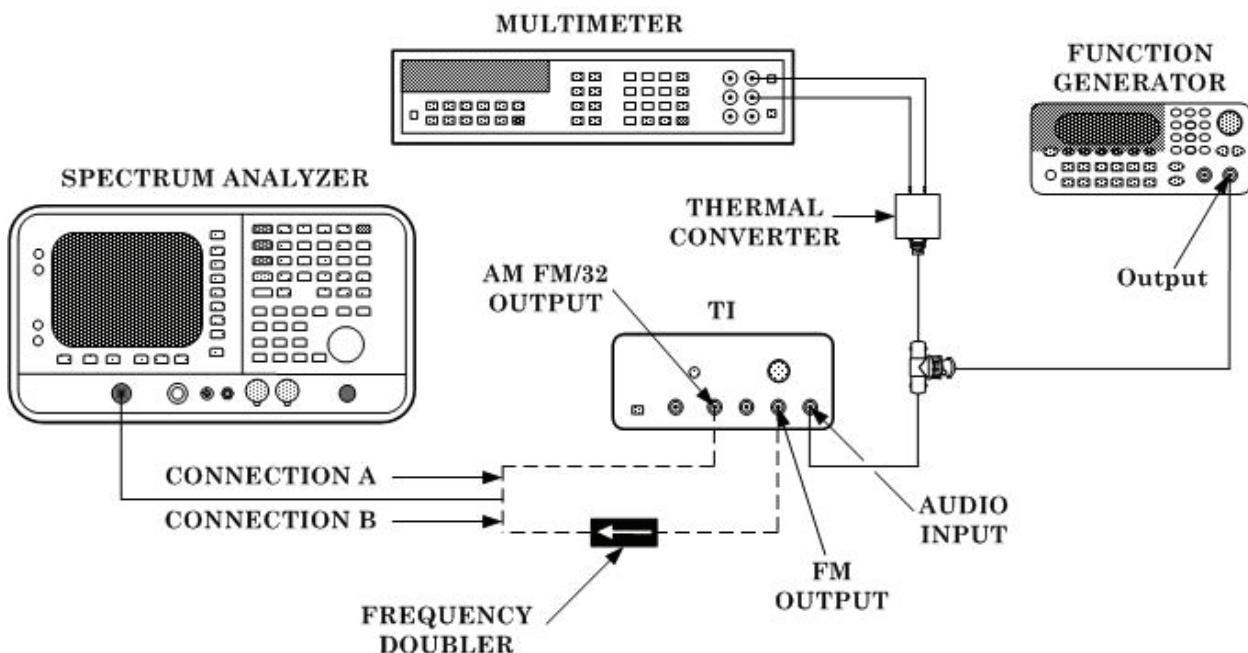

Figure 3. FM flatness - equipment setup.
- (1) Connect equipment as shown in figure 3, CONNECTION A.
- (7) Note multimeter dc V indication.
- (8) Set function generator frequency to 640 kHz.
- (9) Connect equipment as shown in figure 3, CONNECTION B, using frequency doubler.